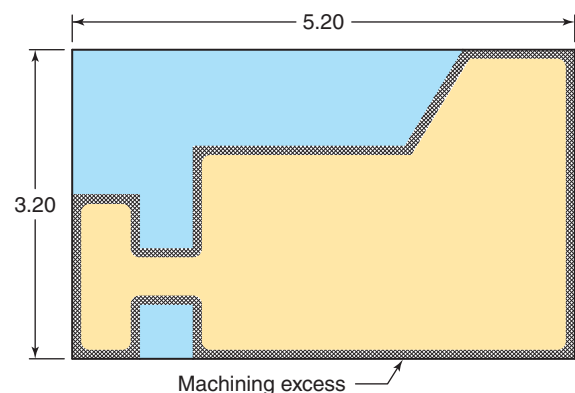

Figure 5-22 Excess material must be left on the rough blank.
5. Nature of the material—since aluminum machines so easily, more excess might be better (Fig. 5-22). However, leaving a large amount of excess on a stainless steel blank could be a real nightmare!
Here's another consideration: when sawing you must also allow for the thickness of the saw cut itself called the **kerf**. If a second part was to be sawed from the sheet in Fig. 5-22, approximately 0.100 in. would be needed for the kerf as well as the machining excess on both parts. Each type of saw tooth pattern has its own kerf thickness.